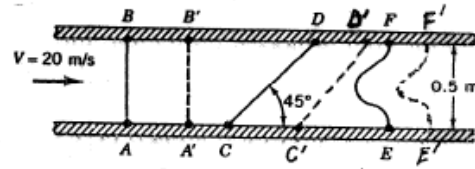

FIGURE P4.49
4.49 Water flows through a duct of square cross section as shown in Fig. P4.49 with a constant, uniform velocity of $V = 20$ m/s. Consider fluid particles that lie along line $A-B$ at time $t = 0$. Determine the position of these particles, denoted by line $A'-B'$, when $t = 0.20$ s. Use the volume of fluid in the region between lines $A-B$ and $A'-B'$ to determine the flowrate in the duct. Repeat the problem for fluid particles originally along line $C-D$; along line $E-F$. Compare your three answers.